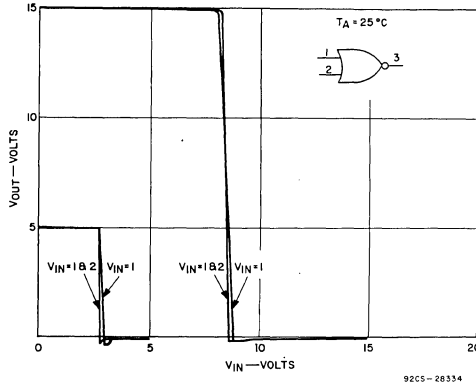

Fig. 5 — Voltage transfer characteristics of a buffered 2-input NOR gate (CD4001B).
**Buffered**—The buffered 2-input NOR gate voltage-transfer characteristics, Fig. 5, are squared because of the gain of three CMOS stages from input to output. Fig. 5 shows that noise voltage inputs of  $\pm 1.5$  V at  $V_{DD} = 5$  V and  $\pm 4$  V at  $V_{DD} = 15$  V will have little discernible
**Unbuffered**—Fig. 6 shows the rounded voltage-transfer characteristics of the 2-input unbuffered NOR gate. Also evident is the shift in the transfer curve for the different logic input states. Compare these curves to those of Fig. 5 and the effects of the non-buffered inputs as well as the gain differences are evident. The rounded characteristics require a noise-immunity specification of  $\pm 20\%$  of  $V_{DD}$  at 5, 10 and 15 V as well as a reduced noise margin: 0.5 V at  $V_{DD} = 5$  V and 1.0 V at  $V_{DD} = 15$  V.
**Noise Immunity**—Table III shows the detailed input-voltage data-sheet specifications for buffered and unbuffered gates. From these test conditions the user-oriented noise-immunity and noise-margin data of Table II are derived. Also refer to Figs. 5 and 6 for the voltage-transfer characteristics that illustrate the reason for the different input-voltage-specification requirements for buffered and unbuffered devices.